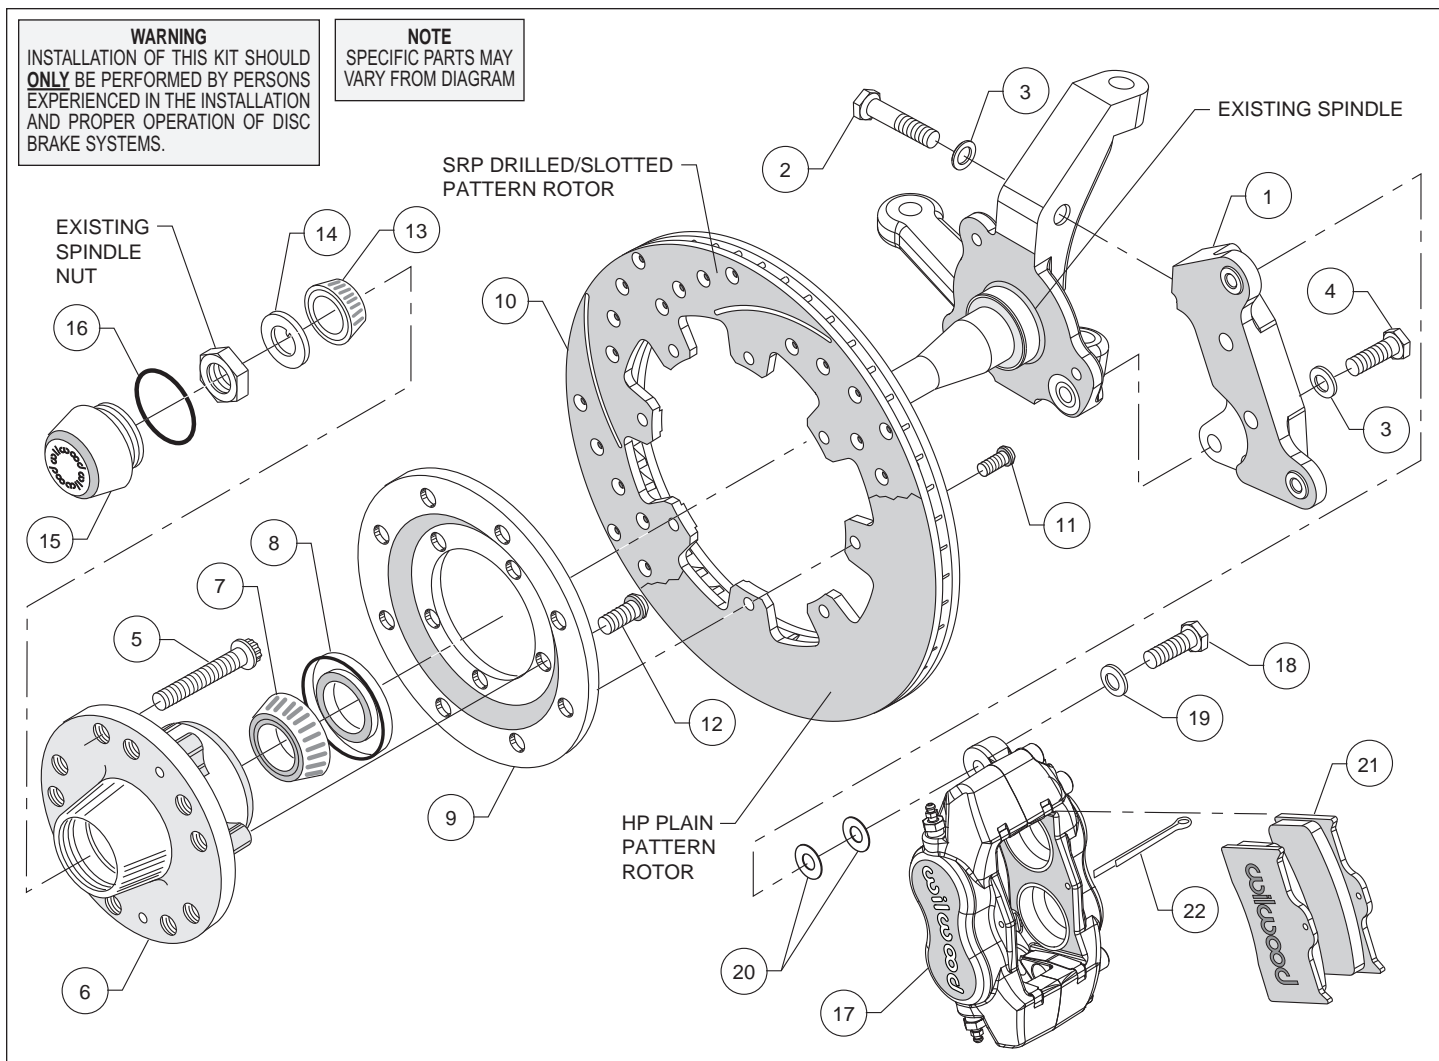
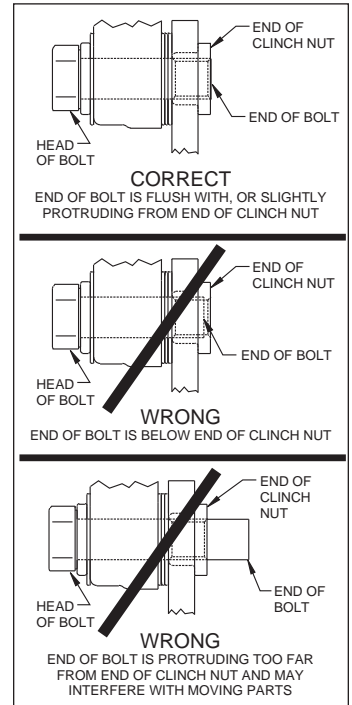

Figure 1. Typical Installation Configuration
Figure 3. Clinch Nut Engagement Diagram
Assembly Instructions (numbers in parenthesis refer to the part lists, and Figure 1):
CAUTION: All mounting bolts must fully engage insert nuts. Be sure to check that all bolts are either flush or protruding through flanged side of insert nut after shimming, Figure 3.
- Orient the caliper mounting bracket (1) on the inboard side of the spindle as shown in Figure 1. Install bracket using bolts (2 and 4), and washers (3), Figure 1. Ensure that the flanged heads of the clinch nuts in the bracket are facing outboard. Temporarily tighten the mounting bolts. **NOTE:** *The bracket must fit squarely against the mounting points on the spindle.* Inspect for interference from casting irregularities, machining ridges, burrs, etc. Remove bolts one at a time, apply red *Loctite*® 271 to threads, and torque bolts to 55 ft-lb.
- Install wheel studs (5) into the hub (6), Photo 1. Torque to 77 ft-lb. **NOTE:** *There are two lug patterns of five holes each in the hub (5 x 4.50 and 5 x 4.75).* Make sure of the correct hole pattern for the wheel application before installing the studs into the hub.
- Pack the large inner bearing cone (7) with high temperature disc brake bearing grease (available from your local auto parts store) and install into the backside of the hub (6), Photo 2.
- Install the grease seal (8) by pressing into the backside of the hub (6), flush with the end of the hub, Photo 2.
- Orient the rotor (10) and the rotor adapter (9) as shown in Figure 1 and Photo 3. Attach the rotor to the adapter using bolts (11). Using an alternating sequence, apply red *Loctite*® 271 to the threads, and torque to 25 ft-lb.
- Mount the adapter/rotor assembly (9/10) to the hub (6) using bolts (12), as shown in Figure 1 and Photo 4. Using an alternating sequence, apply red *Loctite*® 271 to the threads, and torque to 45 ft-lb.
- NOTE:** Please reference the caution statement at the beginning of the assembly instructions. Mount the caliper (17) onto the caliper mounting bracket (1) using bolts (18) and washers (19), as shown in Figure 1. Initially place two .035" thick shims (20) on each bolt between the caliper and the bracket, Photo 7. Temporarily tighten the mounting bolts and view the rotor (10) through the top opening of the caliper. The rotor should be centered in the caliper, Photo 8. If not, adjust by adding or subtracting shims between the bracket and the caliper. Always use the same amount of shims on each of the two mounting bolts. **NOTE:** The end of each bolt must be flush with or slightly protruding from the head of the clinch nut, as shown in Figure 3. If necessary place spare shims between washer (19) and caliper mounting ear to achieve the proper clinch nut engagement. Once the caliper alignment and clinch nut engagement are correct, remove the bolts one at a time, apply red *Loctite*® 271 to bolt threads, and torque to 40 ft-lb.